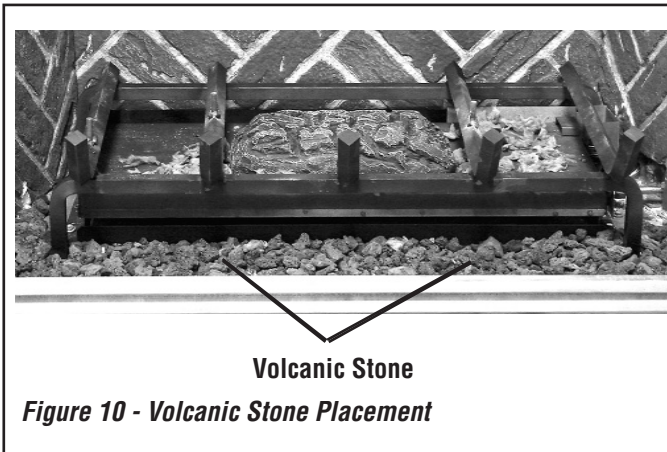

Figure 10 - Volcanic Stone Placement
- If logs are not installed according to the log installation instructions, flame impingement and improper combustion could occur and result in soot and/or excessive production of carbon monoxide (CO), a colorless, odorless, toxic gas.
Step 2. Place volcanic stone around the burner, as shown in **Figure 10**.